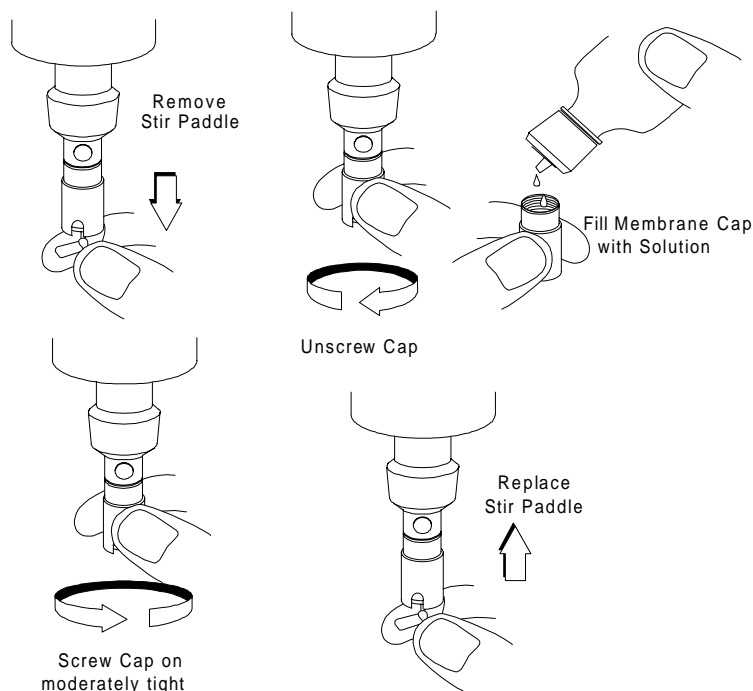

Figure 3
1. Remove the stir paddle from the probe by pulling it straight out. See figure 3.